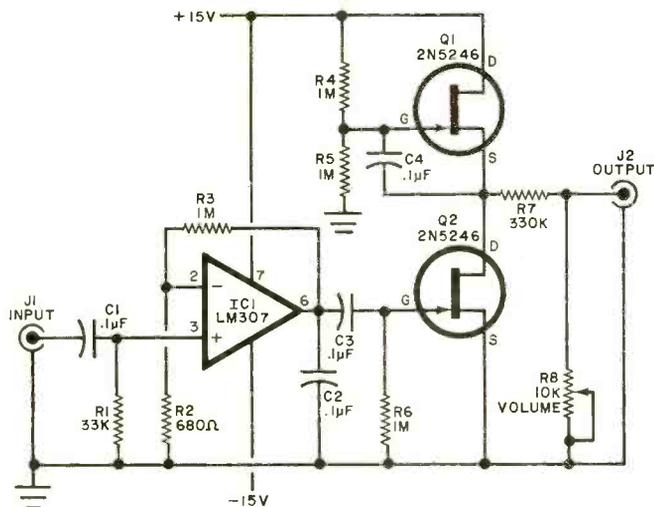

Fig. 4. Reader's fuzz-box circuit amplifies guitar's signal until clipping occurs and then overdrives output stage.
**Reader's Circuit.** Peter Stys (44 Massey St., Brampton, Ontario, Can. L6S 2W3), an electric guitar enthusiast, was unhappy with the results obtained from various fuzz boxes he had tried with his instrument. None, he felt, provided the real "pro" sound he wished to achieve. So, he decided to tackle the problem head-on and design his own unit. His fuzz box circuit is illustrated in Fig. 4. Suitable for operation on dual dc power supplies from  $\pm 5$  to  $\pm 18$  volts, the design uses inexpensive, readily available, standard components and can be duplicated quite easily by the average hobbyist in one or two